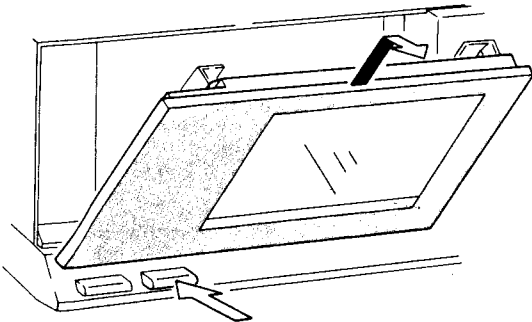

Fig. 2
1) After depress eject button to open cassette box, pull cassette lid to remove in the direction of arrow. (See figure 2)